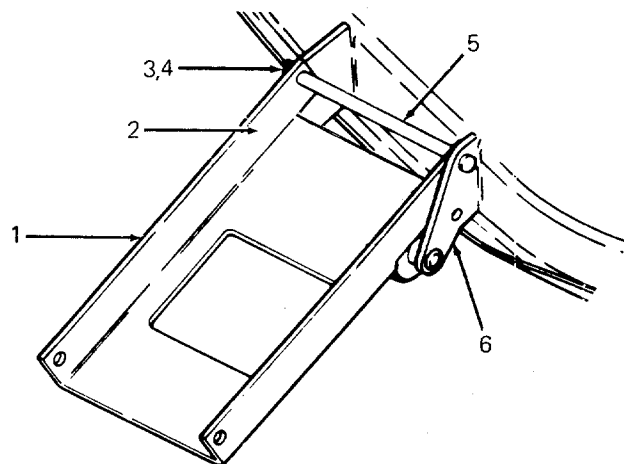

Figure 38
- Remove the front hanger bracket from the front roller bracket as follows: Remove hairpin cotter and flat washer, then remove the deck hanger rod. (Refer to Figure 38.)